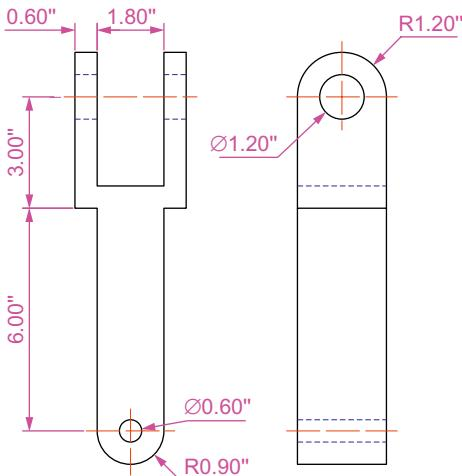
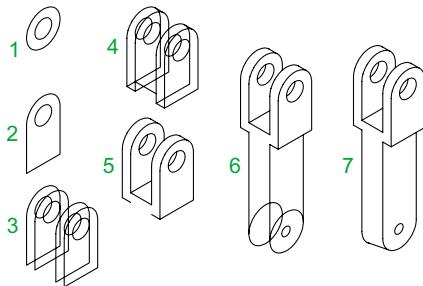

Fig. 7.23 Second example – isometric drawing – orthographic projection
Fig. 7.24 Second example – isometric drawing – stages in the construction
### Second example – isometric drawing (Fig. 7.24)
**Fig. 7.23** is an orthographic projection of the model of which the isometric drawing is to be constructed. **Fig. 7.24** shows the stages in its construction. The numbers refer to the items in the list below:
- Fig. 7.26** is a first angle orthographic projection of part of the fitment shown in the isometric drawing **Fig. 7.23**. Construct a three-view third angle orthographic projection of the part.